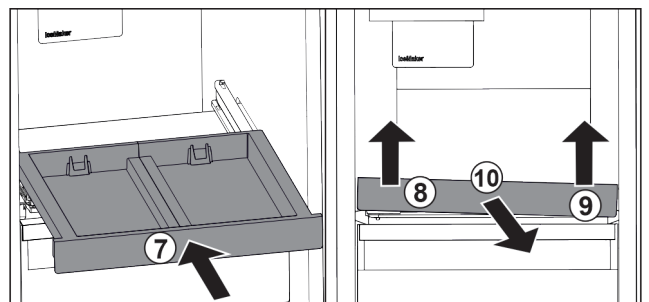

Fig. 35
- ▶ Slide in the pull-out board. Fig. 35 (7)
- ▶ Lift the pull-out board on the front left. Fig. 35 (8)
- ▶ Lift the pull-out board on the front right. *Fig. 35 (9)*
- ▶ Take out the pull-out board to the front. *Fig. 35 (10)*